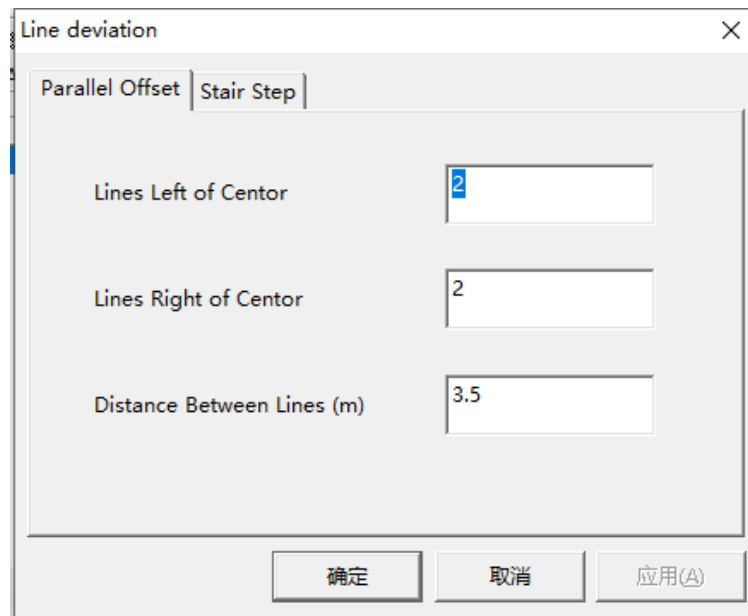

Figure 6.21 Line Deviation
C) Deviation method: It is a lines generation method that takes one line as benchmark and forms multiple parallel lines through translation. Select a survey line as the basic survey line, click "Parallel Offset", and the Survey Line Translation dialog box is shown in Figure 6.21.
C1) The parallel line type is shown as Figure 6.21 above. Take the benchmark survey line selected by the user as the center line to determine the line spacing (Unit: m) and the number of translated survey lines. The left or right side of the centerline is defined by the baseline direction, which is from the starting coordinate point to the ending coordinate point. After setting, click OK to generate the result diagram as shown in Figure 6.22.